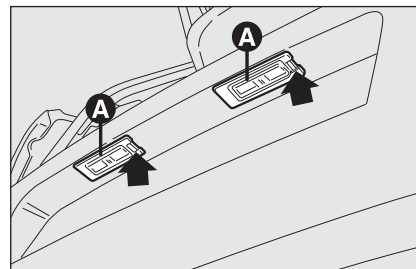

fig. 28
- manipulate the point shown by the arrow and remove the lens unit **A-fig. 28**;